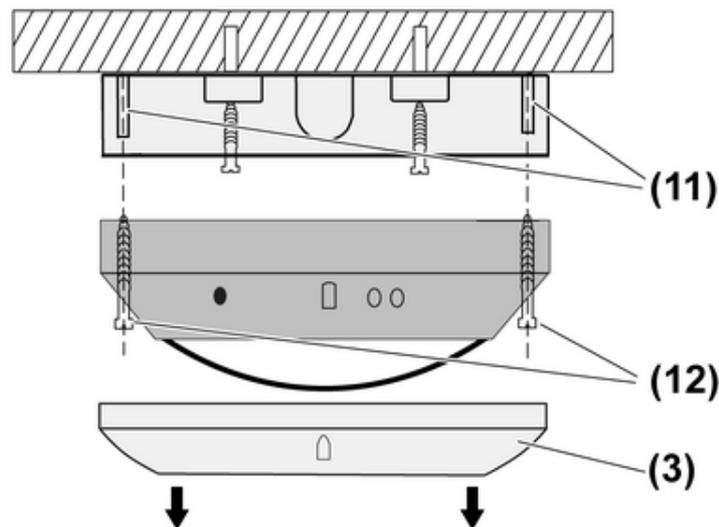

Figure 4: mounting
- (3) Decor ring
- (11) Fastening pins
- (12) Screws
- Pull off decor ring (3) (Figure 4).
- Loosen screws (12).
- Screw presence detector to connection box (4) with screws (12) and mounting pins (11) (Figure 4).